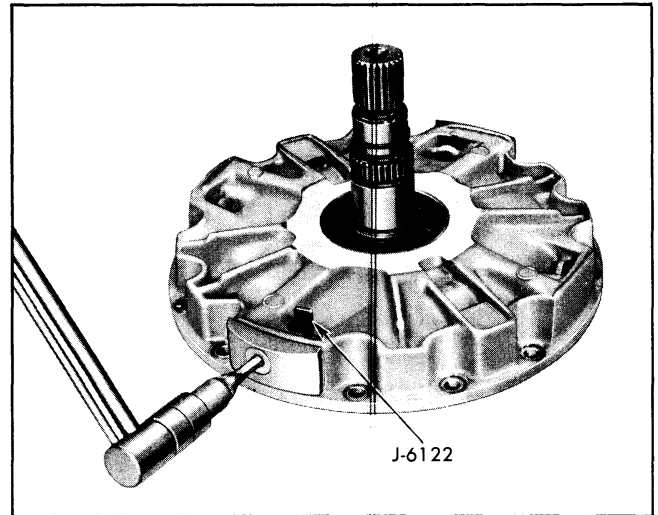

Fig. 7C-80 Installing Exhaust Valve Covers
7. Remove 7 drive and 7 driven front unit clutch plates (Fig. 7C-82).